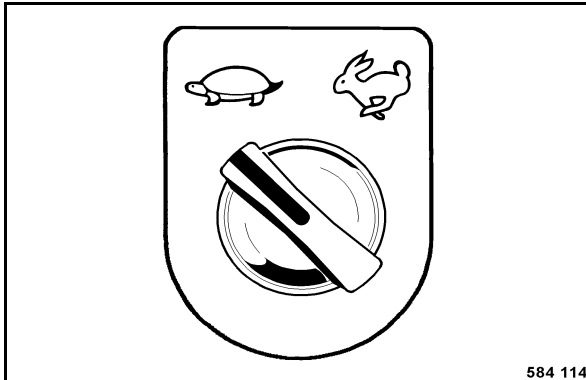

Fig. 94
- Pre-select working speed (Fig. 94) .